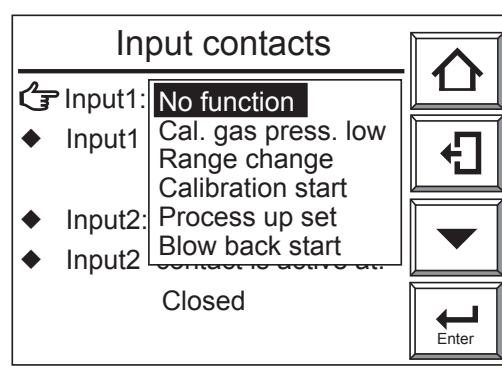

Figure 8.11 Input Contacts Display
- (1) From the Basic panel display touch [Setup] key, and the [Execution/Setup] display appears.
- (2) Select “Commissioning” and the Commissioning display appears.
- (3) Select “Contact Setup” then “Input contacts”.
- (4) Select “Input 1”. Function Selection window (Fig 8.11) appears.
- (5) Select “Calibration start”.
- (6) For Input contact 1 select (operate if) “Closed”. (You can select “Open” or “Closed”).
- (7) Change Closed to Open.